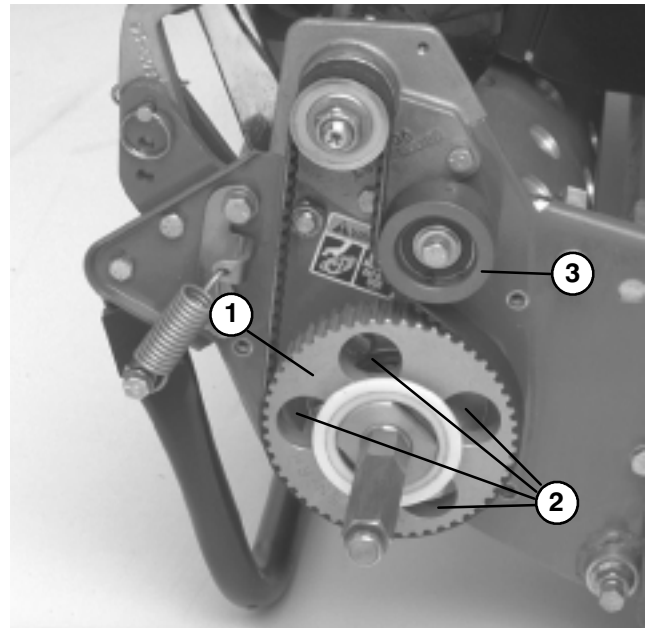

Figure 8
6. Rotate drive pulley until holes align with (4) roller bearing flange screws (Fig. 8).
7. Loosen (4) roller bearing screws and screw securing idler pulley. Raise or lower right side of roller assembly until the gap is reduced to less than .010". Retighten the roller bearing screws. Adjust belt tension and tighten idler pulley mounting screw (Fig. 8).